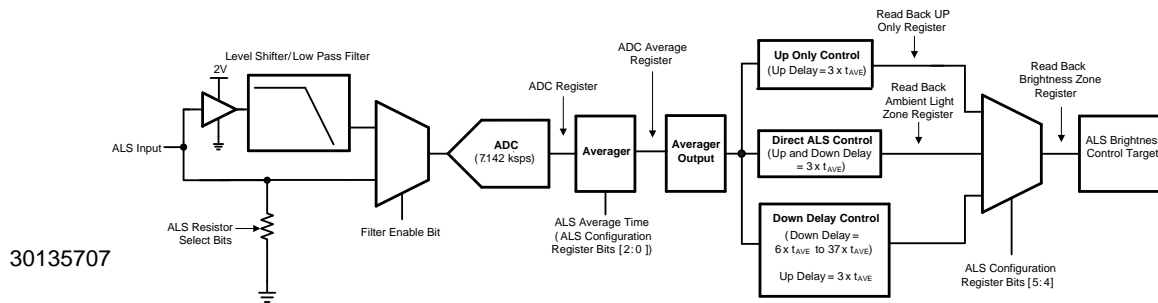

Figure 9. Ambient Light Sensing Block Diagram
Figure 9 shows the functional block diagram of the LM3533's ambient light sensor (ALS) interface.
Once digitized the output of the ADC is sent into the ALS averager. The averager will compute the average of the number of samples taken over the programmed average period. The ALS average times are set via bits [5:3] in the ALS Configuration Register. The output of the ALS average can be read back via the ADC Average register (address 0x38). With the ALS Enable bit set, the ADC Average register is updated after each average period (see Figure 10). After every average period the Averager Output stores the information for which brightness zone the ALS input voltage resides in (see Figure 9).
5. The Averager Output (see Figure 9) contains the zone that is determined from the most recent full average period.